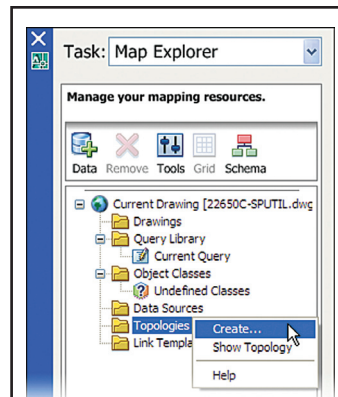

Figure 1 – The Map Explorer Task Pane
2. Set your Task – The "Map Explorer" task pane will be needed to create a topology. Do note the slight interface change between the Map 3D 2006 and Map 3D 2007 releases. Map 3D 2006 uses tabs on the side of the interface—similar to tool palettes. Instead of tabs on the side of the interface, Map 3D 2007 (Figure 1) has a pull-down at the top of the interface explicitly labeled "Tasks."
plorer task pane is "Topologies." To create topology, right-click on the "Topologies" option and select "Create" (Figure 1).